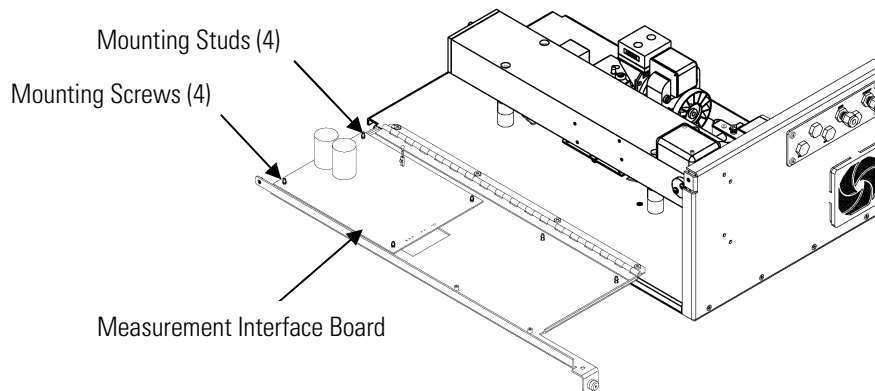

Figure 7-18. Replacing the Measurement Interface Board
Use the following procedure to replace the measurement interface board (Figure 7-18).
2. Unplug all connectors from the measurement interface board (Figure 7-18). Note the locations of the connectors to facilitate reconnection.